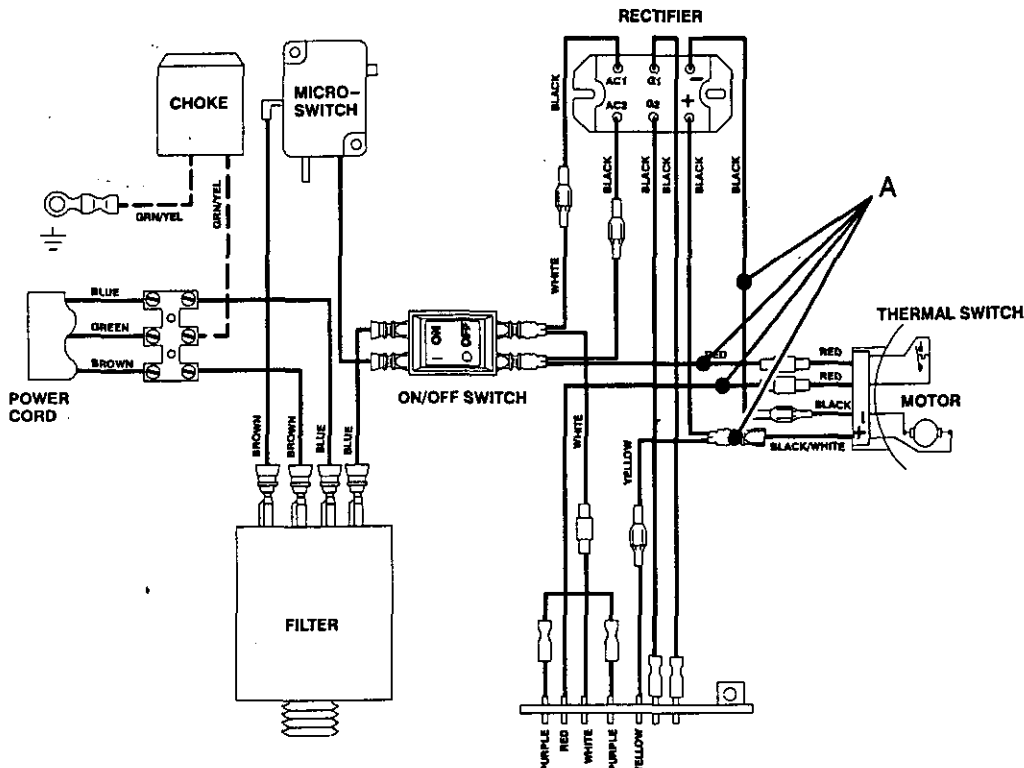

Fig. 43
1. Disconnect the pump outlet hose (47) from the displacement pump outlet nipple (46).
2. Remove the pressure control cover and screws and disconnect the four motor leads. See Fig. 43. Remove the conduit seal from the conduit connector coming into the control box.
3. Use an adjustable wrench to loosen the conduit connector (346) at the pressure control assembly (43).
4. Swing the conduit (22) away from the pressure control conduit connector.
5. Pull the motor leads (A) through the conduit connector, one at a time.